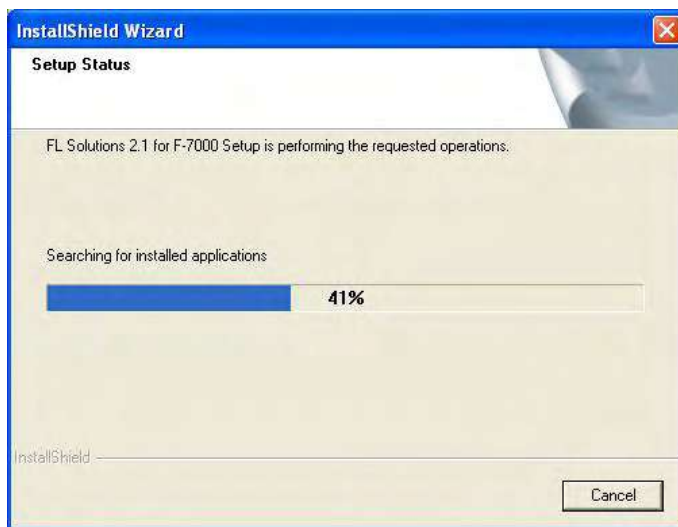

Fig. 1-9
- A window as shown in Fig. 1-9 will appear.